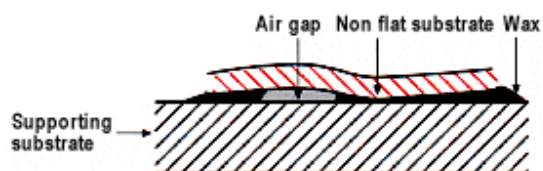

Figure 27
**Problem B:** On nonflat substrates wax does not fill all the gaps between the substrate and the supporting substrate, causing poor cut quality mainly at the bottom of the substrate (figure 27).